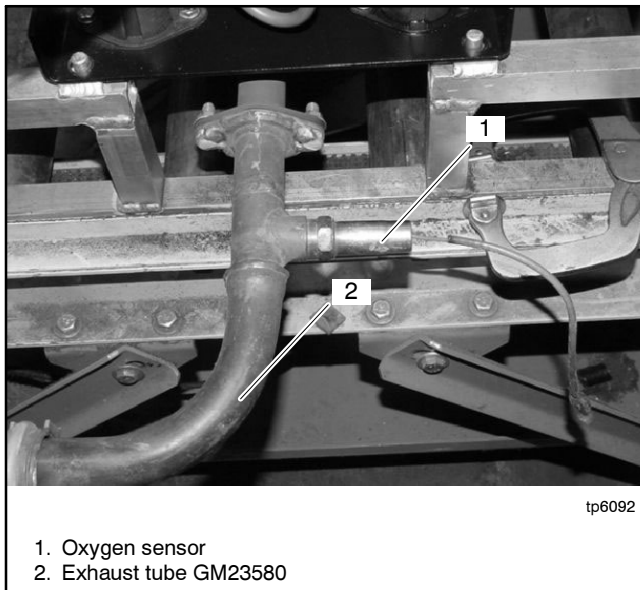

Figure 5-1 Exhaust Tube and Oxygen Sensor
- Attach the exhaust pipe extension to the silencer. Verify that the test port is plugged or install the oxygen sensor in the port if needed for fuel adjustments. See Figure 5-1.